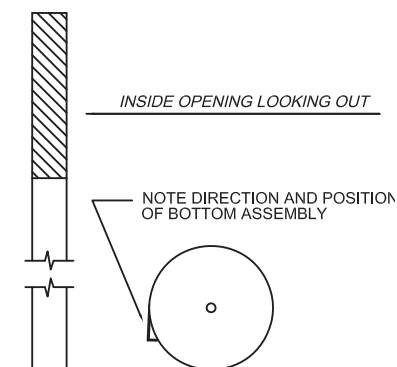

Figure 4.
5.1 Position the door in the opening as shown in Figure 4. Be sure to place the door on protective material to prevent damage to the curtain.